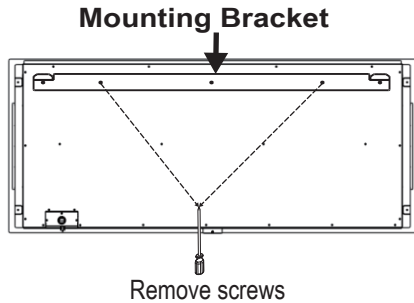

Figure 1
- B. Place the unit face-down on a soft, non-abrasive surface. Remove the mounting bracket from the back of the unit by removing the screws. [Figure 1]